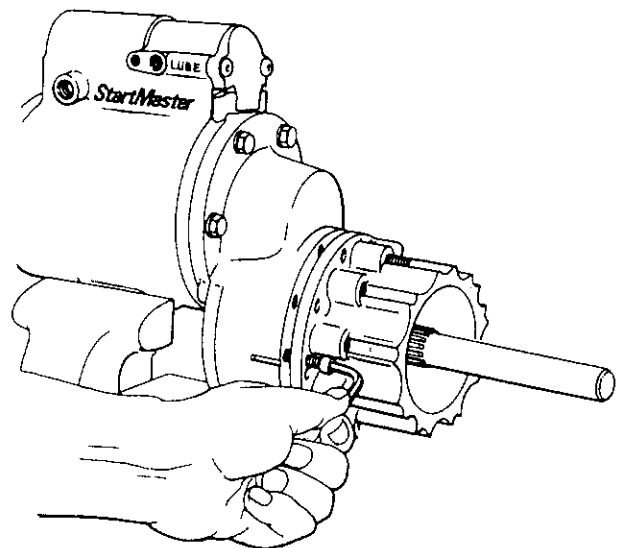

Figure 4.7
13. Remove the nine drive housing screws (26) and lockwashers (25).
14. Using two drive housing screws inserted into the threaded jacking holes in the drive housing flange, jack the drive housing from the gear case. See Figure 4.7.